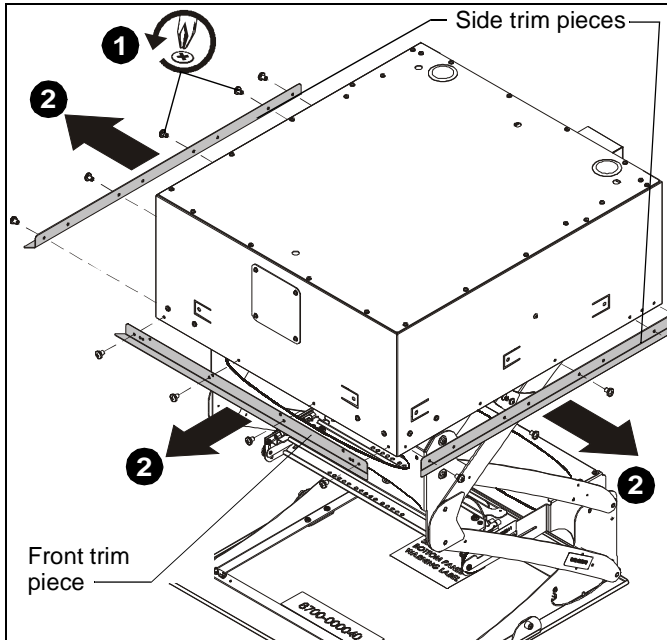

Figure 1
2. Remove and discard the sides and front trim pieces. (See Figure 1)